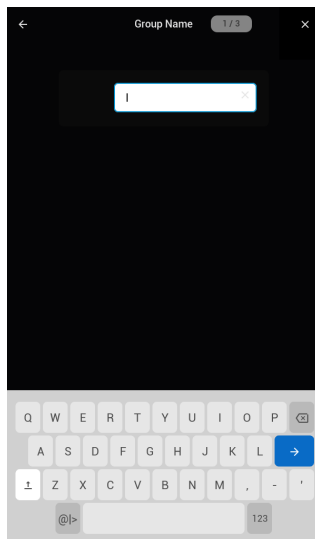

Figure 17: Name New Group
3. Input the group name and touch the blue arrow button to continue (Figure 17, below).